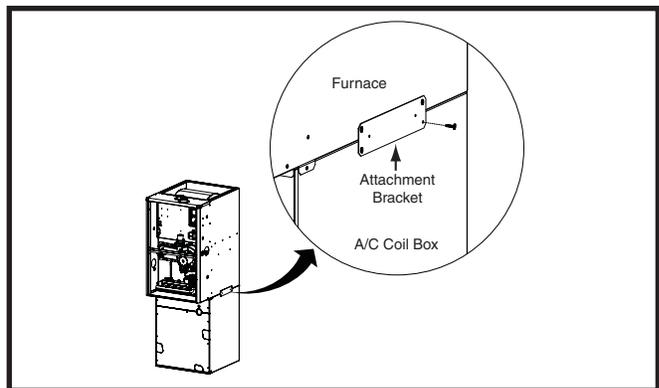

Figure 19. Attachment Bracket
- c. Install the furnace on top of the A/C coil box. Align the furnace evenly on the coil box from front to back and side to side (Figure 19).
- d. Secure the furnace to the A/C coil box with an attachment bracket (Figure 19) on both sides of the furnace. **NOTE:** The attachment brackets must be evenly positioned over the seam between the A/C coil box and the furnace. Install four self drilling screws in each bracket.